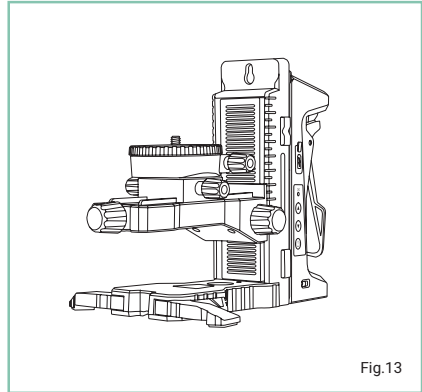

Fig.13
- Attach the laser level to the multi-purpose mount using the thumb screw (Fig.13).